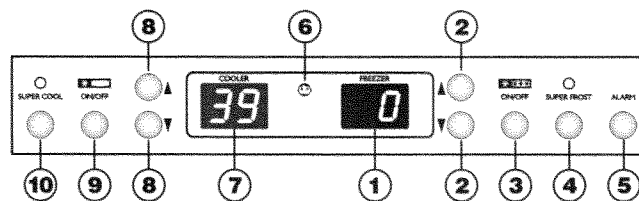

Figure 3
## Childproof Lock - Figure 3
## Temperature Display - Figure 3
## Audible alarm signal - Figure 3
### Display - Figure 3
## Supercooling - Figure 3
- Press the buttons "Alarm" ⑤ and "Temperature up" ⑧ simultaneously for 3 seconds. The display then shows "On" . (Fig. 3)
- Press the buttons "Alarm" ⑤ and "Temperature up" ⑧ simultaneously for 3 seconds. (Fig. 3) The display then shows the actual temperature of the refrigerator and of the freezer compartment.